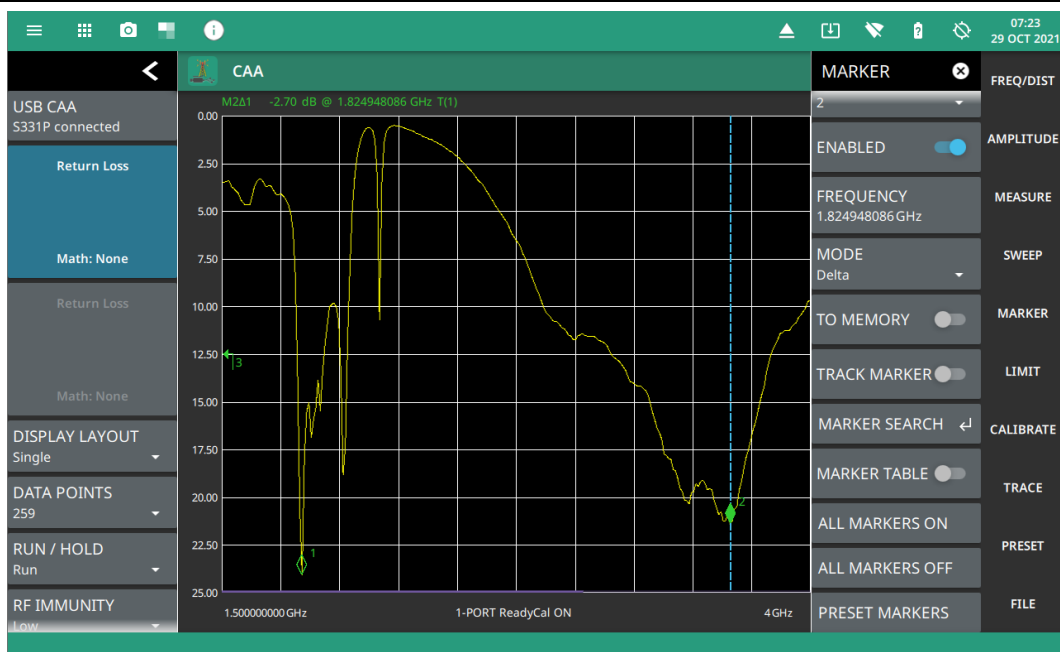

Figure 2-32. Delta Markers 1 and 2
3. Select FREQUENCY or DISTANCE to edit the marker location, or drag the marker on the display. Figure 2-32 shows a marker on the Smith chart, where the location can be changed by using the + or - buttons, or by editing the frequency value.
4. Markers 2 through 8 can be set as a delta marker to the reference marker 1. Select MODE to select the active marker type as a Delta marker. Figure 2-32 illustrates a delta marker between two return loss valleys.